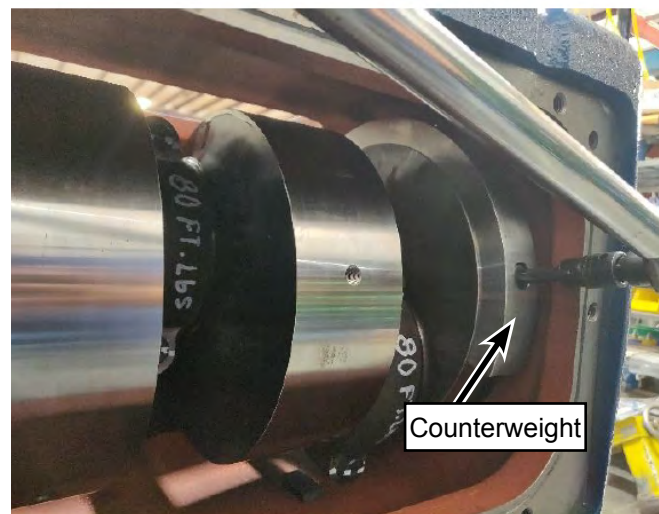

Figure 179: Install Counterweights
20. Install the crankshaft counterweights on the two outer lobes. Torque to 120 ft-lbs. (163 Nm) (Figure 179)